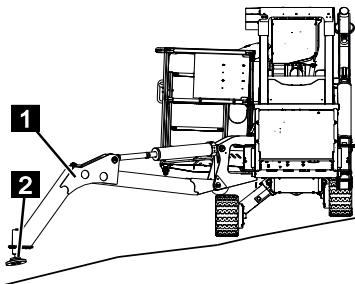

Fig. 105
2. Move the outriggers (Fig.105/1) on the down slope side into the wide or narrow bracing position (↪ Chapter 7.11 „Adjusting and operating the outriggers for bracing”, on page 111) and lower them.
3. Make sure that the bracing pads (Fig.105/2) remain just above the ground if possible.
- Observe the maximum height difference when driving over a ridge (max. ridge height $X = 100$ mm (Fig.105/X).